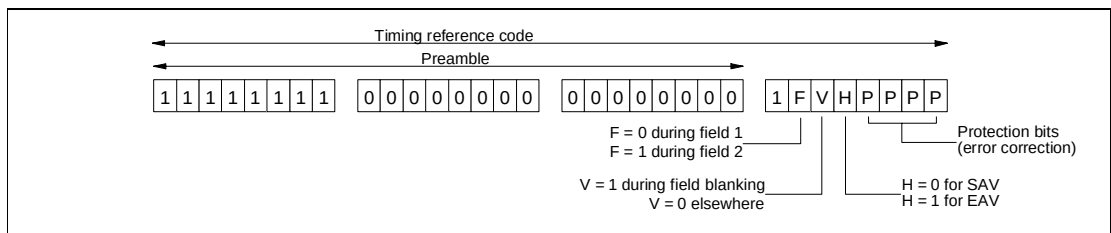
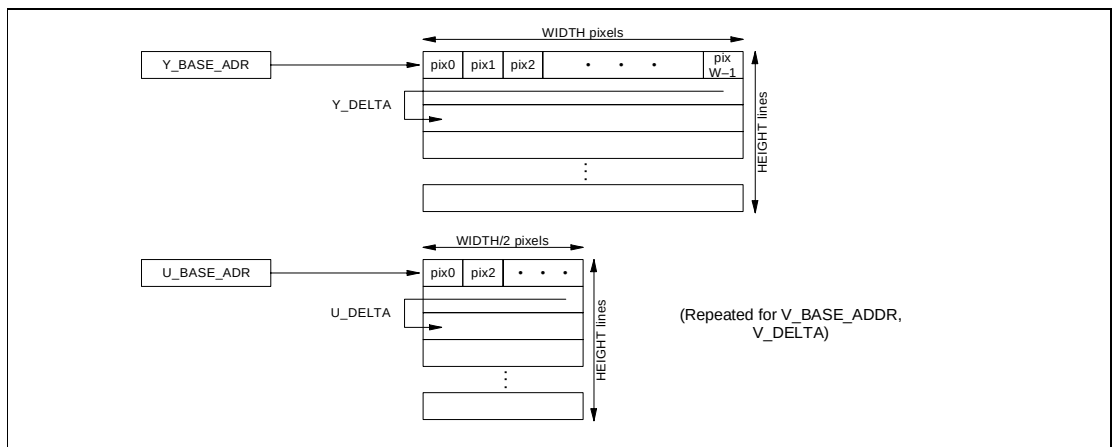

Figure 6-8. Format of CCIR656 SAV and EAV timing reference codes.
**Figure 6-10. VI YUV 4:2:2 planar memory format.**
In *fullres capture* mode, the VI unit receives all three video components Y, U, and V, as well as synchronization information (SAV and EAV codes) on the VI\_DATA[7:0] pins in CCIR656 format. See Figure 6-8. The three video components Y, U, and V are separated into three different streams. Each component is written in packed form into separate Y, U, and V buffers in the SDRAM. This is commonly called a *planar* format1 (see Figure 6-10).
Horizontally-adjacent samples are stored at successive byte addresses, resulting in a packed form (four 8-bit samples are packed into one 32-bit word). Upon horizontal retrace, pixel storage addresses are incremented by the corresponding DELTA to compute the starting byte address for the next line. Note that DELTA is a 16-bit unsigned quantity. This process continues until HEIGHT lines of WIDTH samples have been stored in memory for luminance (Y). For chrominance, HEIGHT lines of half the WIDTH are stored1. See Figure 6-10.